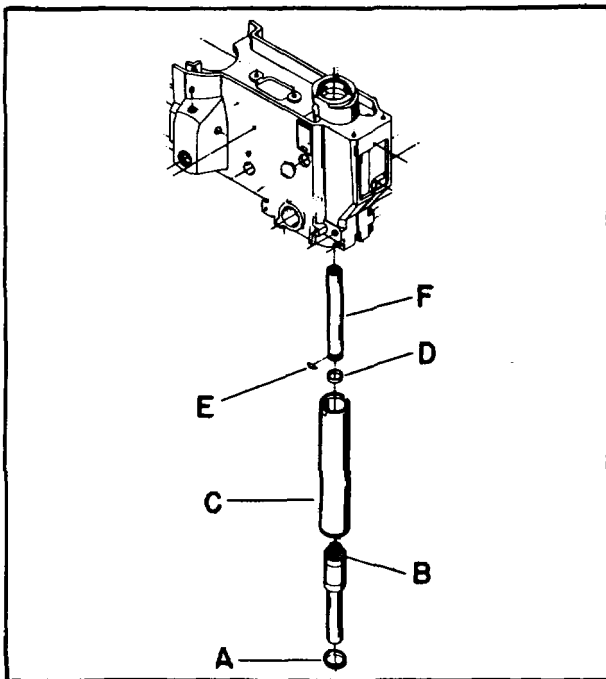

Figure 7. Changing Lower Spindle Assembly
3. Using a spanner wrench remove bearing closure nut (A), and pull lower spindle (B) out of quill (C) Fig. 7.
4. Remove garter spring (D), and key (E), Fig. 7. Disengage sleeve (F) from spindle.